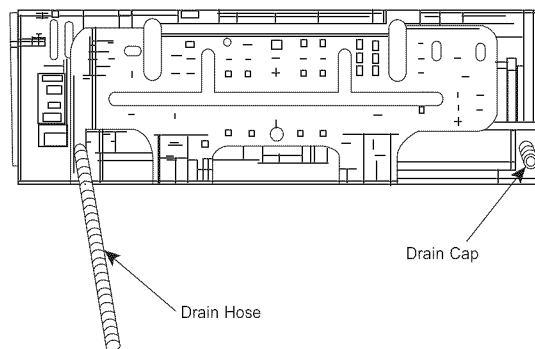

Fig. 15 - Drain Hose and Cap Location
4. Relocate drain connection if necessary - Determine if the installation requires a left or right hand drain exit and relocate the drain hose if necessary as shown in Fig. 15.